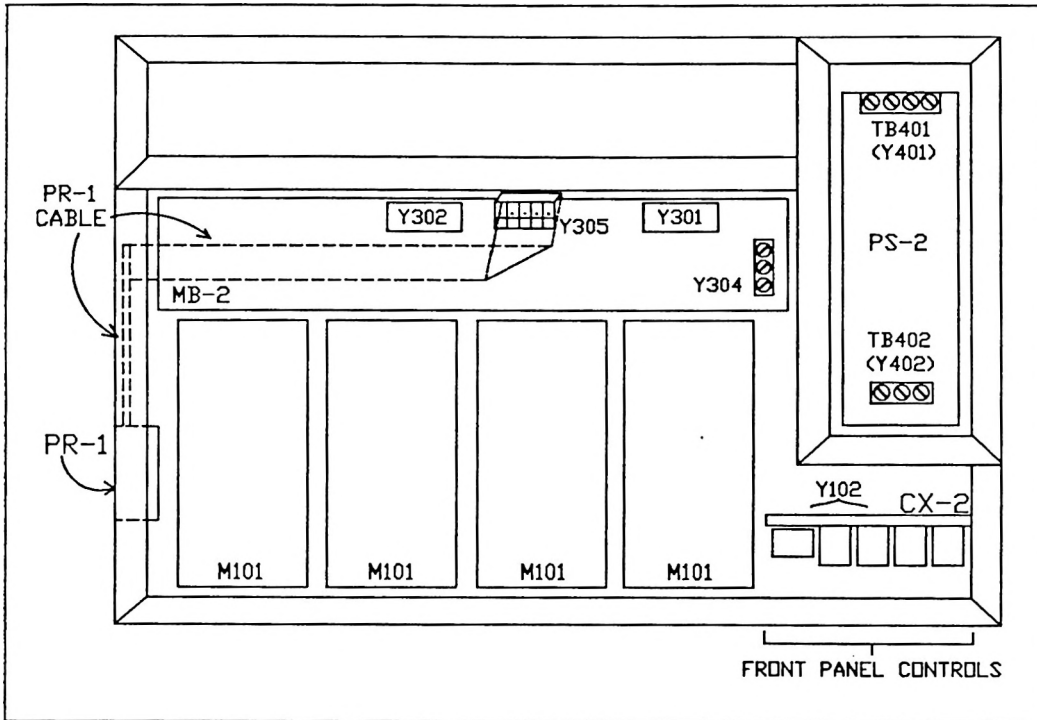

Figure 4-3
12. Carefully route the cable under the MB-2 motherboard as indicated in Figure 4-3, PR-1 Cable Routing, and reinstall the motherboard using the nuts and lock washers previously removed.